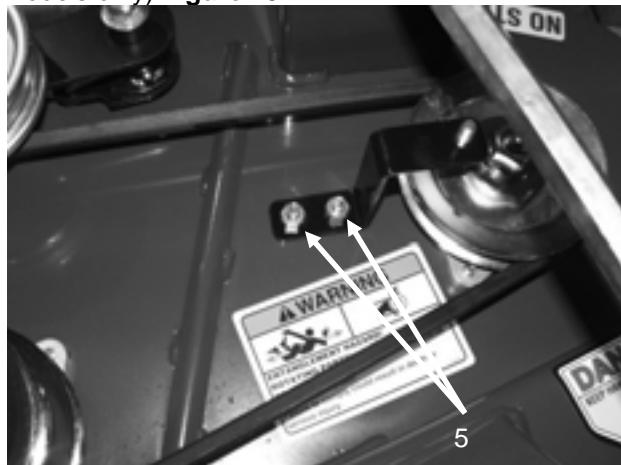

Figure 49
6. Using 1/2" socket, remove belt guard brackets (36" models only) **Figure 49**.